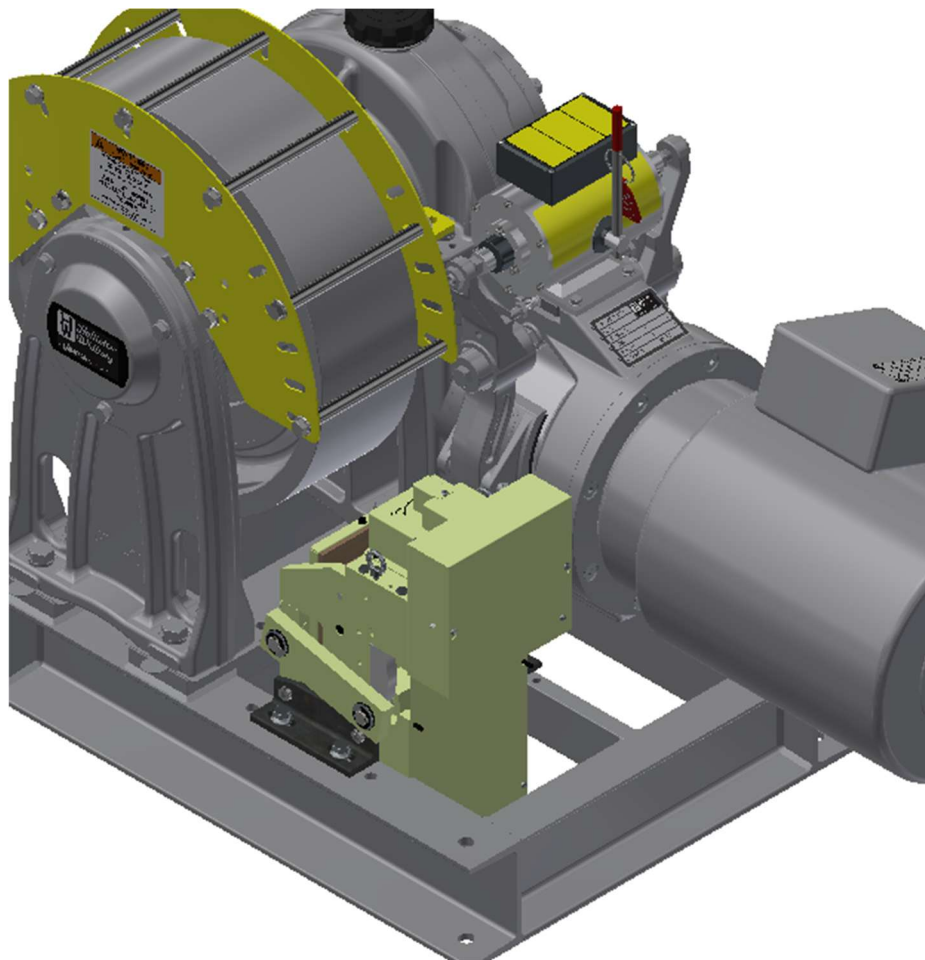

Figure 4-19: OH machine with gripper
- See Figure 4-19 for an illustration of a finished installation.